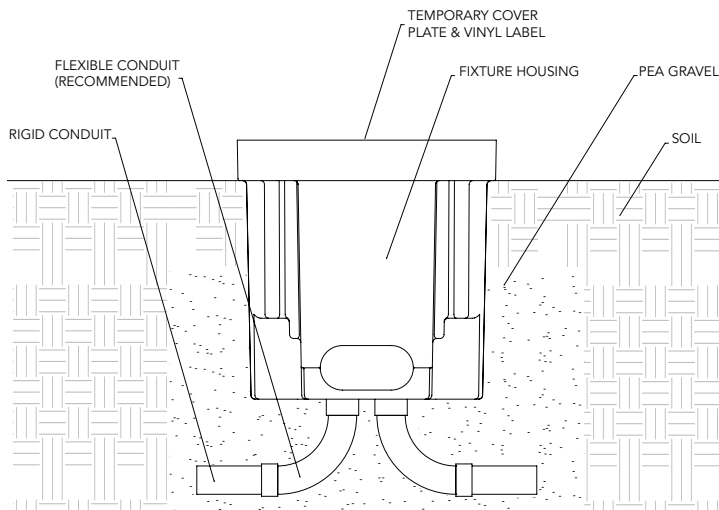

Figure 1
2. Dig hole approximately 16" in diameter to a depth suitable to make top of temporary cover plate 3/4" above grade (see fig. 1). Pea gravel is required for seating the luminaire housing and providing necessary drainage.